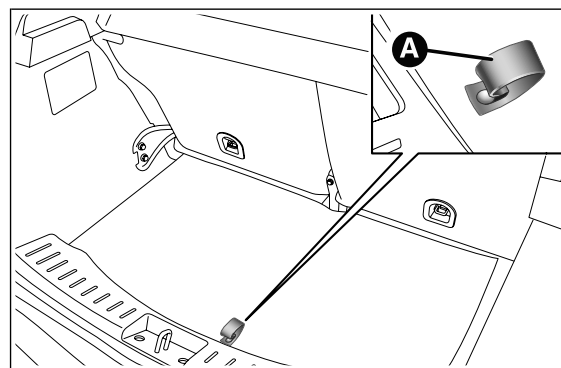

fig. 108
- ☐ open the luggage compartment, pull tab A fig. 108 and lift up the mat;